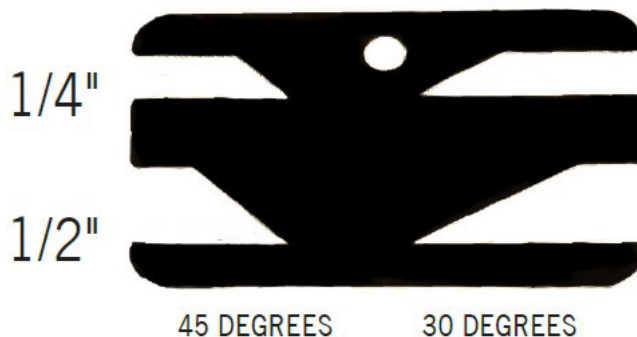

Figure 5.3 Blade Angle Gauge Plate
- Reground the angled edge of the chopping blades to 30 degrees. Use the blade angle gauge plate when sharpening the blades to achieve the proper angle (see Figure 5.3).